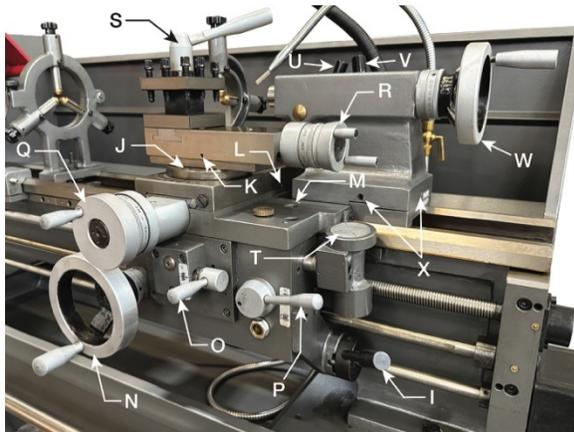

Figure 12-2
9. **Forward/Reverse Selector** (I, Figure 12-2) - Pull lever up for clockwise spindle rotation (reverse). Push lever down for counterclockwise spindle rotation (forward). Neutral position is a center detent and the spindle remains idle.
10. **Compound Rest Lock** (J, Figure 12-2) - Turn hex nut clockwise to lock and counterclockwise to unlock.
11. **Compound Slide Lock** (K, Figure 12-2) - Turn set screw clockwise to tighten and counterclockwise to loosen.
12. **Cross Slide Lock** (L, Figure 12-2) - Turn set screw clockwise and tighten to lock. Turn counterclockwise and loosen to unlock.
13. **Carriage Lock** (M, Figure 12-2) - Turn hex socket cap screw clockwise and tighten to lock. Turn counterclockwise and loosen to unlock.
14. **Longitudinal Traverse Handwheel** (N, Figure 12-2) - Rotate hand wheel clockwise to move the apron assembly toward the tailstock (right). Rotate the wheel counterclockwise to move the apron assembly toward the headstock (left).
15. **Feed Axis Selector** (O, Figure 12-2) - Push lever to the left and down to activate the crossfeed function. Pull lever to the right and up to activate the longitudinal function.
16. **Half Nut Engagement Lever** (thread cutting) (P, Figure 12-2) - Move the lever down to engage. Move the lever up to disengage.
17. **Cross Traverse Handwheel** (Q, Figure 12-2) - Rotate clockwise or counterclockwise to move or position.
18. **Compound Slide Traverse Handwheel** (R, Figure 12-2) - Rotate clockwise or counterclockwise to move or position.
19. **Tool Post Clamping Lever** (S, Figure 12-2) - Rotate counterclockwise to loosen and clockwise to tighten. Rotate the tool post when the lever is unlocked.
20. **Threading Dial Indicator** (T, Figure 12-2) – Engage by pushing into the leadscrew. Pull out to disengage. The dial indicator and chart will specify at which point a thread can be entered.
21. **Tailstock Quill Clamp Lever** (U, Figure 12-2) – Lift up to lock the spindle. Push down to unlock.
22. **Tailstock Clamp Lever** (V, Figure 12-2) – Lift up lever to lock. Push down lever to unlock.
23. **Tailstock Quill Traverse Handwheel** (W, Figure 12-2) – Rotate clockwise to advance the quill. Rotate counterclockwise to retract the quill.
24. **Tailstock Off-Set Adjustment** (X, Figure 12-2) – Three set screws located on the tailstock base are used to off-set the tailstock for cutting tapers. Loosen lock screw on tailstock end. Loosen one side set screw while tightening the other until the amount of off-set is indicated on scale. Tighten lock screw.